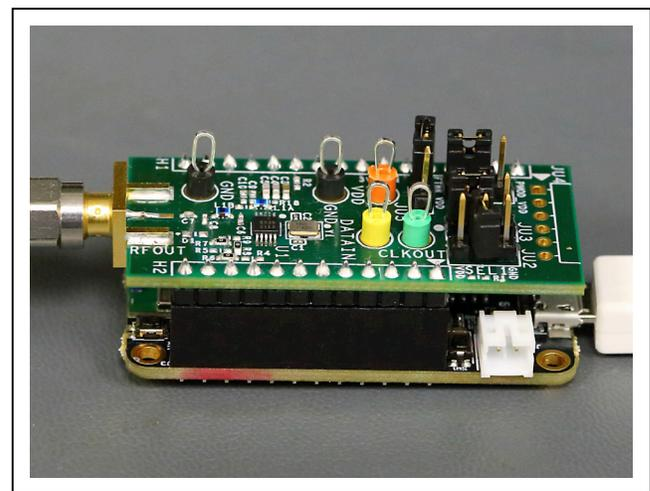

Figure 3. MAX4146x EV Kit Orientation to FTHR Board
- Connect the MAX4146x EV kit to the FTHR board,** be sure the USB connector is oriented on the opposite side of the SMA connector, as shown in Figure 3.
2. **Connect the MAX4146x EV kit to the FTHR Board,** be sure the USB connector is oriented on the opposite side of the SMA connector (see Figure 3).